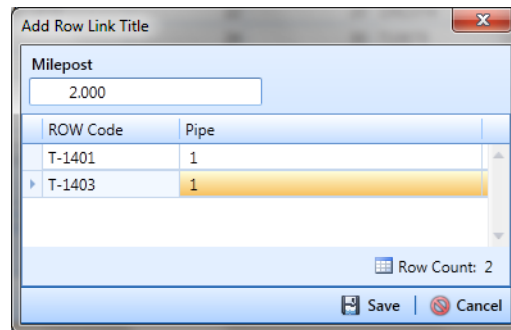

Figure 7-111. Add Row Link
- 7 Click **+** **Add** in the *ROW Links* mini-grid to open the *Add Row Link* dialog box (Figure 7-111).